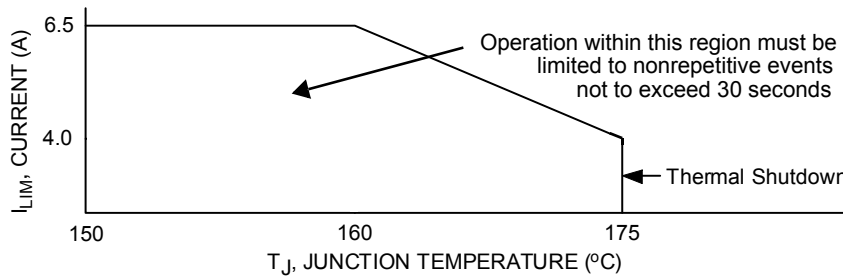
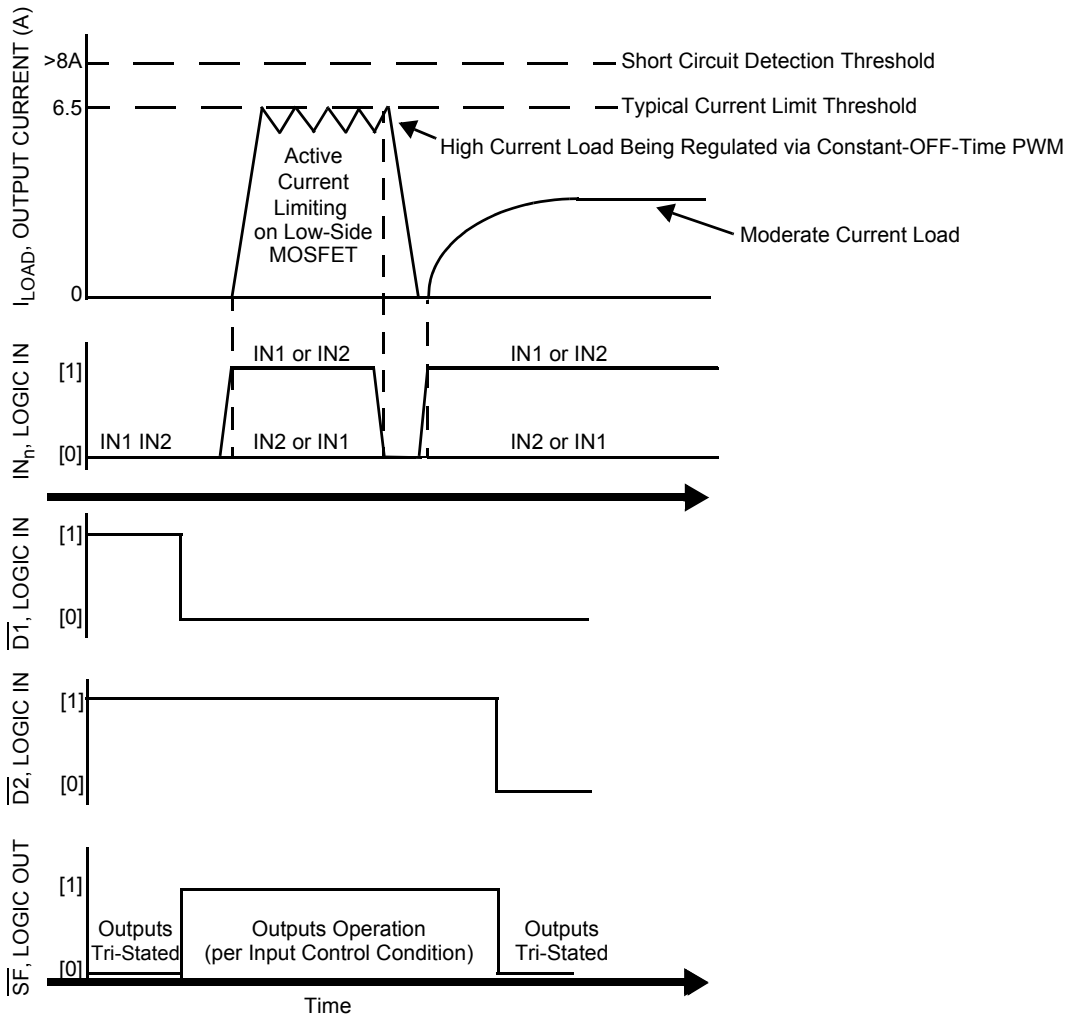

Figure 9. Active Current Limiting Versus Temperature (Typical)
Figure 10. Operating States
27. Load currents ramping up to the current regulation threshold become limited at the I_{LIM} value. The short circuit currents possess a di/dt that ramps up to the I_{SCH} or I_{SCL} threshold during the I_{LIM} blanking time, registering as a short circuit event detection and causing the shutdown circuitry to force the output into an immediate tri-state latch-OFF. See Figures 10 and 11, page 13. Operation in Current Limit mode may cause junction temperatures to rise. Junction temperatures above $\sim 160^\circ\text{C}$ will cause the output current limit threshold to progressively "fold back", or decrease with temperature, until $\sim 175^\circ\text{C}$ is reached, after which the T_{LIM} thermal latch-OFF will occur. Permissible operation within this fold-back region is limited to nonrepetitive transient events of duration not to exceed 30 seconds. See Figure 9, page 12.
The current limiting threshold value is dependent upon the device junction temperature. When $-40^\circ\text{C} \leq T_J \leq 160^\circ\text{C}$, I_{LIM} is between 5.2 A to 7.8 A. When T_J exceeds 160°C, the I_{LIM} current decreases linearly down to 4.0 A typical at 175°C. Above 175°C the device overtemperature circuit detects T_{LIM} and overtemperature shutdown occurs (see Figure 9, page 12). This feature allows the device to remain operational for a longer time but at a regressing output performance level at junction temperatures above 160°C.